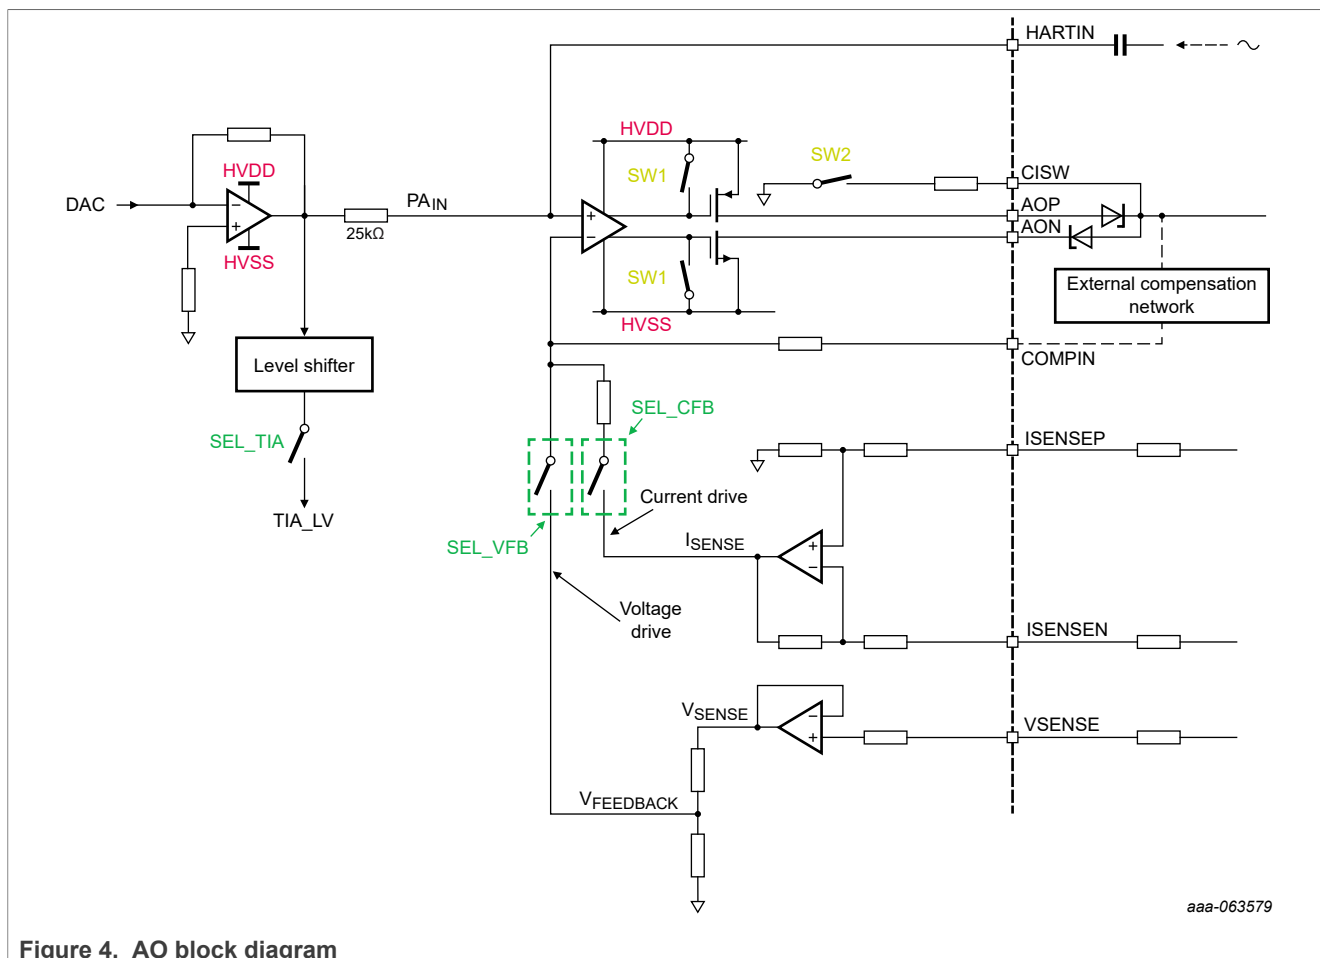

Figure 4. AO block diagram
As shown in Figure 4, an on-chip precise DAC is used as output signal source followed by a gain stage and Power Amplifier, which can be configured for voltage output, current output, or high-impedance (Hi-Z state).
As shown in Figure 4, there are several switches in the output stage, which allow different modes of operation. For example, AO pin - high-Z, voltage output (VO), and current output (CO).